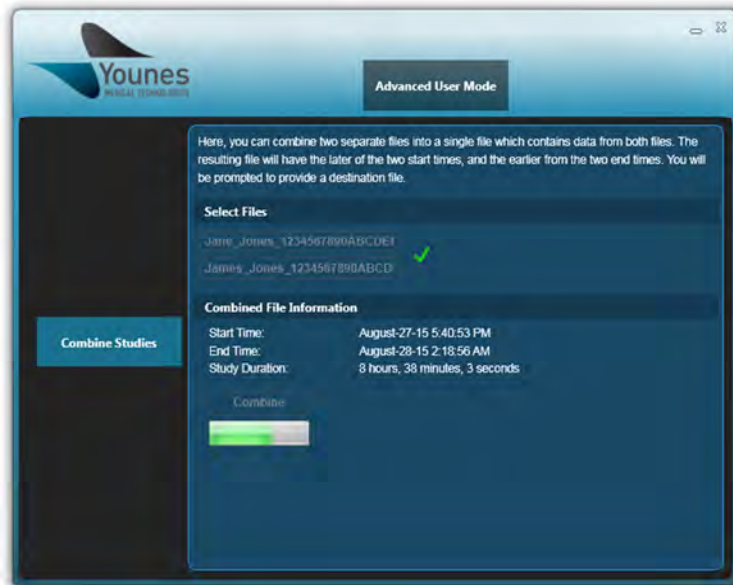

Figure 101 – Windows PC Prodigy Application Combination Progress Screen (Combine Studies)
10. The Windows PC Prodigy application will display the progress of the studies being combined after a file location has been chosen, as shown in Figure 101.